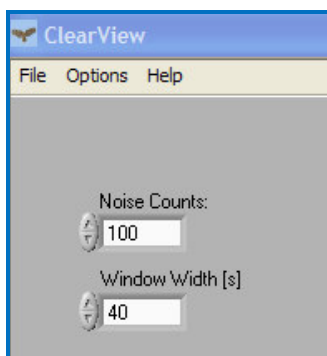
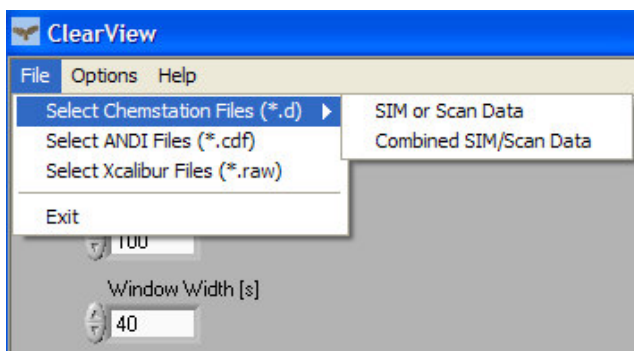

Figure 3.1.1: Default settings for most standard capillary GC/MS data analyses
Figure 3.1.2: ClearView user interface showing chromatogram file formats
Set 'Noise Counts' and 'Window Width [s]' parameter settings. Default settings for noise counts (100) and window width (40) work well for most standard capillary GC/MS data (Figure 3.1.1). Use the dropdown file menu to select the chromatogram format for processing as shown in figure 3.1.2. See 3.2 for more information on parameter settings.